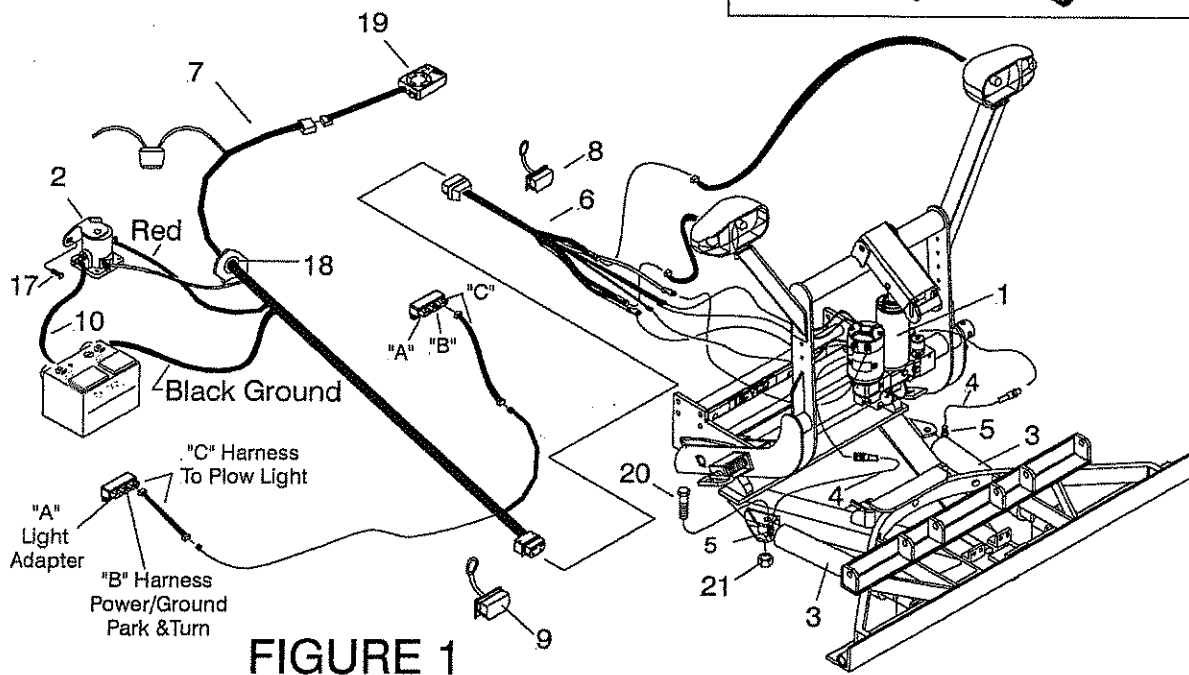

FIGURE 1
Make certain Ram (3) on Driver's side connects to the Drivers side port on the P.A. Block (SEE FIGURE 1).
Route Cables "C" (Yellow) from module to Male Plug (7). Connect both "C" Harness female ends to the male corresponding ends of the Male Plug (7). As per Figure 1.